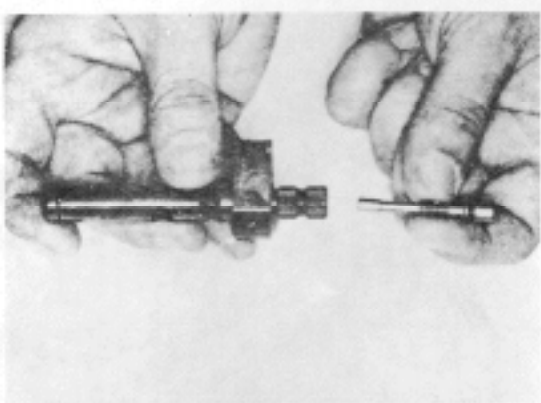

Figure 16G-62. Installing Fuel Adjusting Screw in Throttle Shaft
2. Insert fuel adjusting screw into throttle shaft about 6 urns. Do not restrict throttle shaft fuel port, Figure 16G-62.